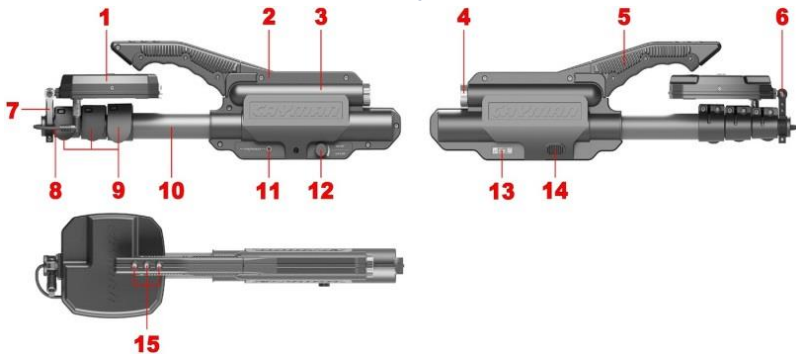
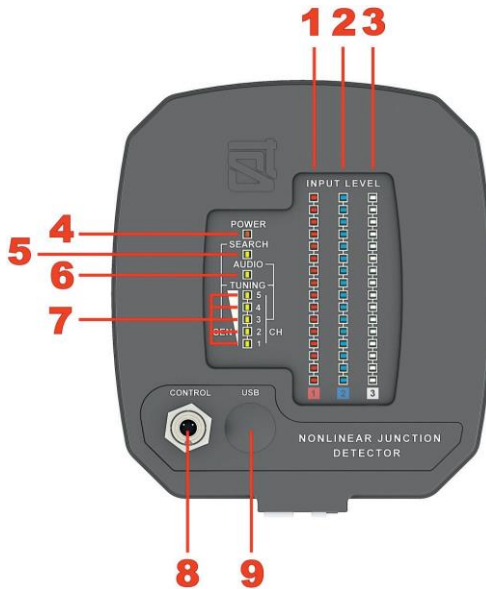

Fig. 2
Fig. 4
ST 400 CAYMAN consists of the main unit and antenna module. They are connected with a telescopic arm. The main constituents are shown in Fig. 2.
On the side of the antenna module facing the operator (Fig. 4), there is an indicator panel, a socket for connecting a control / power cable and a USB connector for connecting a PC
The numbers in Fig. 4:
The main unit is assembled in a sturdy plastic case (2, Fig. 2). In the upper part of the main unit body there is a handle (5, Fig. 2) with three control buttons (15, Fig. 2). Inside the main unit case there is a battery compartment (3, Fig. 2) for two batteries (type 18650). The battery compartment is closed with a metal cover (4, Fig. 2). On the left side of the case there is a headphone jack (11, Fig. 2) and a power switch / volume control (12, Fig. 2). On the right side of the case there is a shield with information about the device name, serial number and manufacturer (13, Fig. 2) and the internal speaker (14, Fig. 2). The electronic control unit of the device is located inside the housing.
The four-section telescopic arm is designed to bring the antenna module closer to the tested object. With the help of eccentric clamps (9, Fig. 2), you can set the required rod length. The telescopic bar is rigidly attached to the supporting structure inside the main unit. The front part of the telescopic arm is equipped with a bracket for attaching the antenna module (6, Fig. 2).
The antenna module is fixed in the required position using a lever handle (7, Fig. 2).
5. Make sure that the power switch knob (12, Fig. 2) is in the extreme left position (off).
6. Connect the power/control cable connector (8, Fig. 2) to the socket of the antenna module (8, Fig. 4).
After turning on the ST 400, periodic spontaneous illumination of one or more segments of the signal level indicators is possible (1-3, Fig.4). This indicates the need to adapt the ST 400 to the current electromagnetic environment.
The SEARCH indicator on the antenna module panel goes out (5, Fig.4) and the AUDIO indicator lights up (6, Fig. 4).